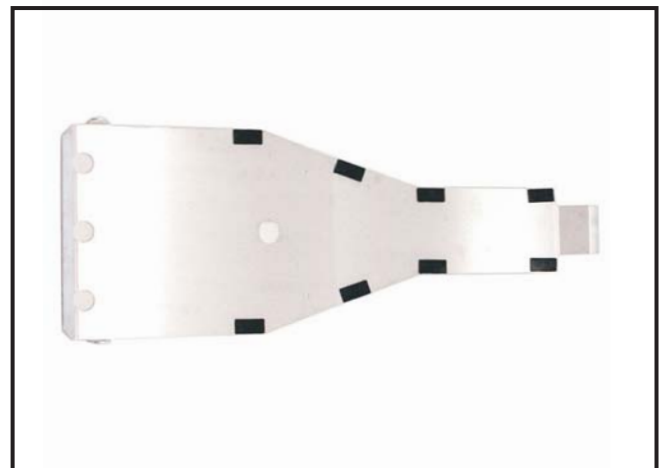

Fig. 4
5. Remove adhesive backing from 2" cushion pieces and install on skid plate at positions previously marked with pencil. See Fig. 4 as an example. (There will be one piece of 2" cushion left over)